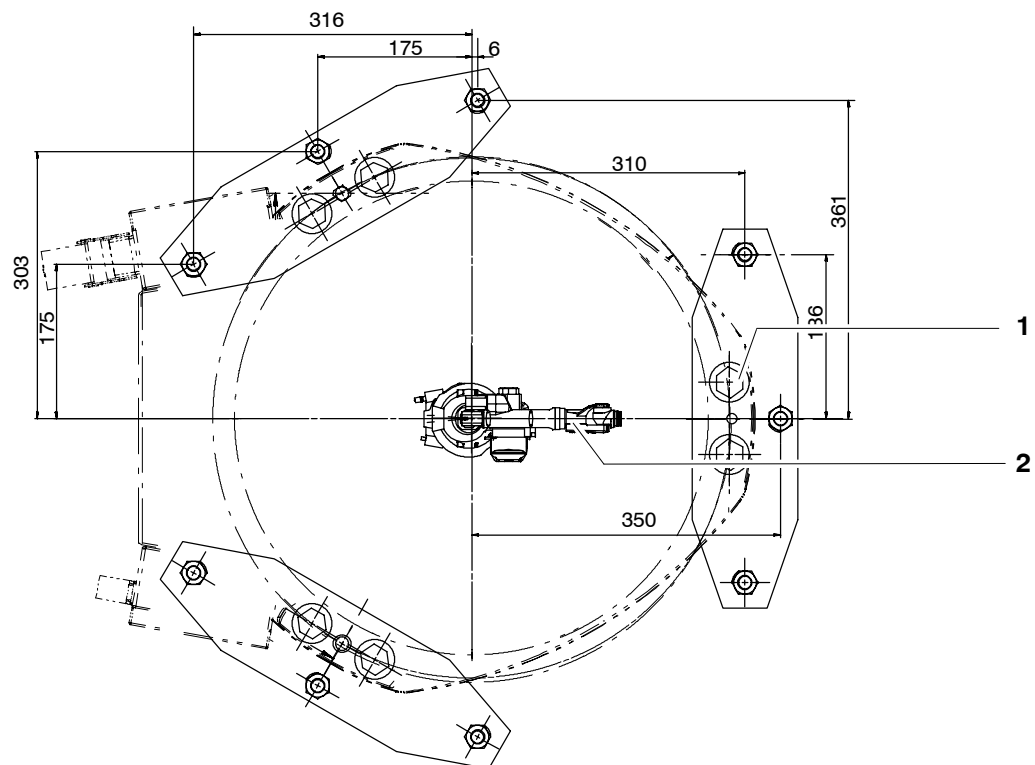

Fig. 46 Bedplates
- (1) Lift the manipulator with fork lift truck or lifting tackle.
- (2) Fasten each of the three bedplates (Fig. 46/2) to the manipulator (3) by means of two M20x70-8.8 hexagon bolts (1) and lock washers.
- (10) Drill nine anchor holes (Fig. 46/1) through the holes of the bedplates; depth in concrete 125 mm.